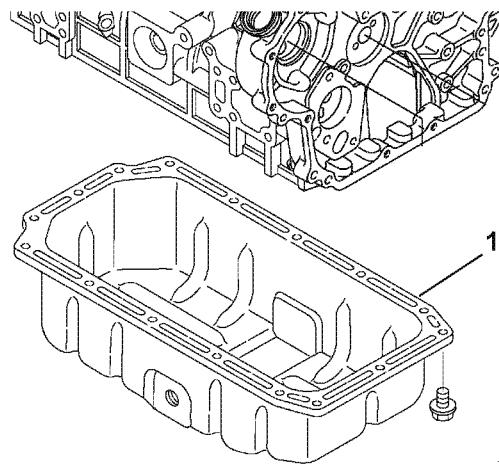

Figure 6-152
2. Apply a continuous bead of ThreeBond Liquid Gasket No. 1212, YANMAR Part No. 977770-01212 to the mounting surface of the oil pan (1, **Figure 6-152**). Be sure to circle each bolt hole.